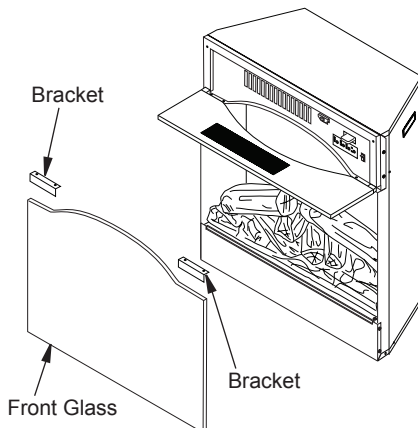

Figure 9 - Removing Brackets and Front Glass
3. With gloves and safety glasses in place, remove 4 screws from glass retainer brackets (see Figure 9).
4. Carefully remove front glass and brackets (see Figure 9).